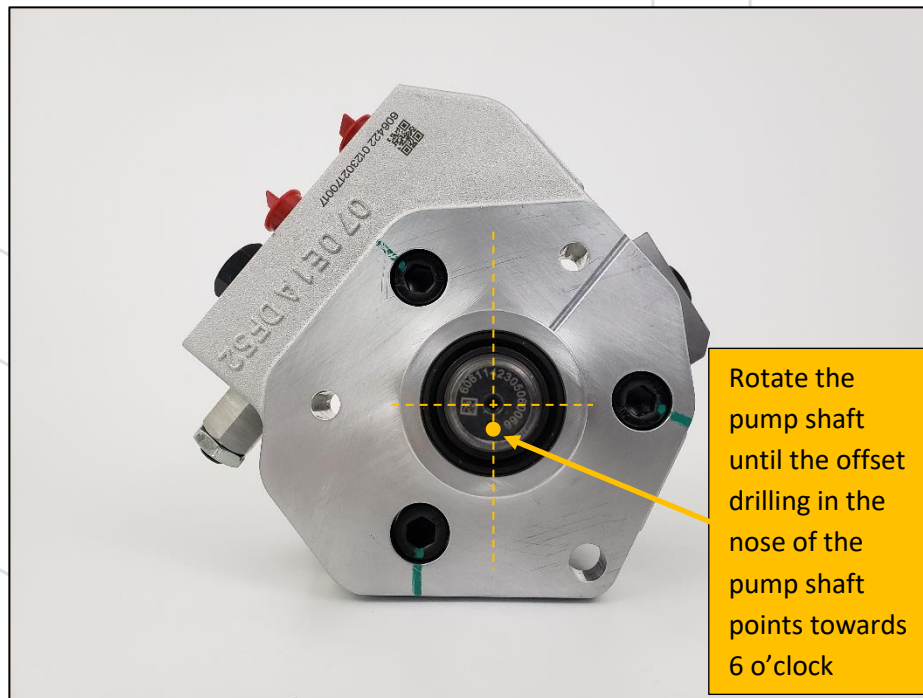

Figure 25: Fuel Pump Timing on Workbench – Offset Hole Location
5. **Fuel Pump Timing:** Place the pump on a workbench in the orientation shown in Figure 25. Rotate the pump shaft until the offset drilling on the end of the pump shaft is facing downward (6 o'clock position).